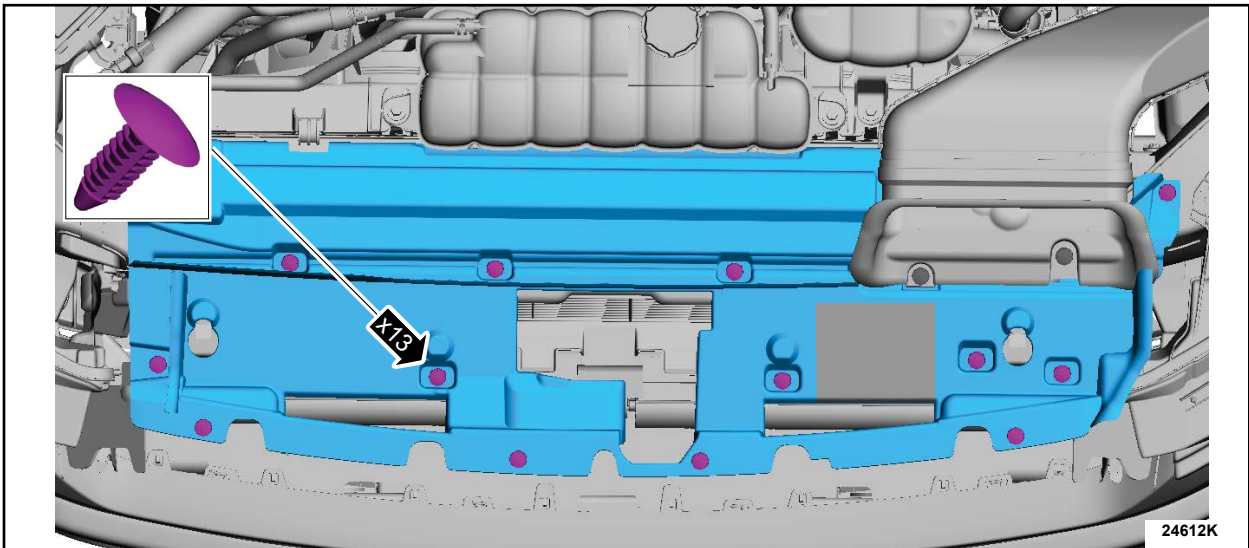

FIGURE 9
14. Using NEW push pins, install the modified upper radiator air deflector. See Figure 9.